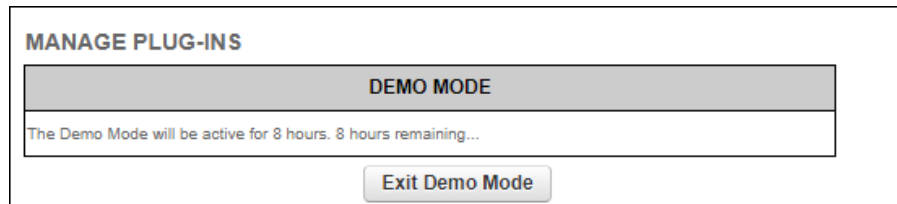

Figure 57. MANAGE PLUG-INS dialog (Demo Mode activated)
- The **Demo Mode** activation dialog will be shown (Figure 57 \(page 132\)). A countdown timer shows how much Demo time remains.